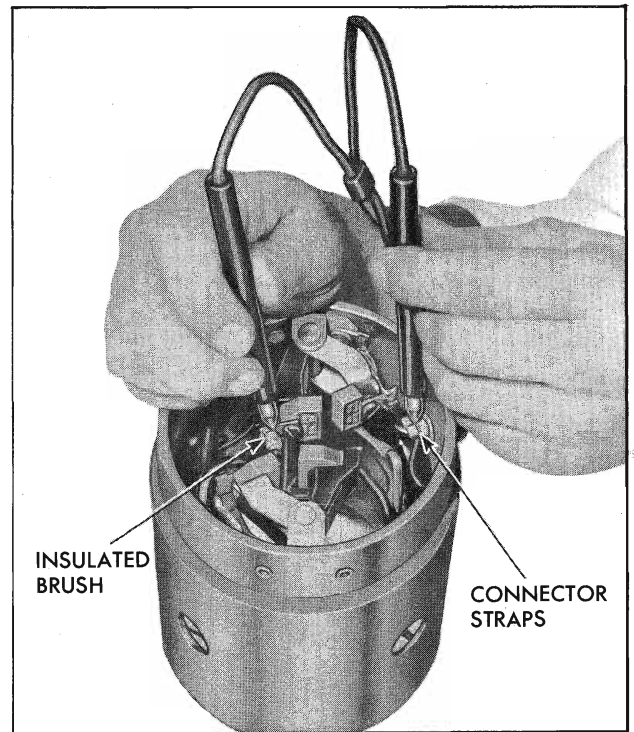

Fig. 11-41 Testing Field Coils for Open Circuit
c. Using a 110-volt test lamp, place one lead on each end of the field coils connected in series (Fig. 11-41). If the lamp does not light, the field coils are open and will require repair or replacement.